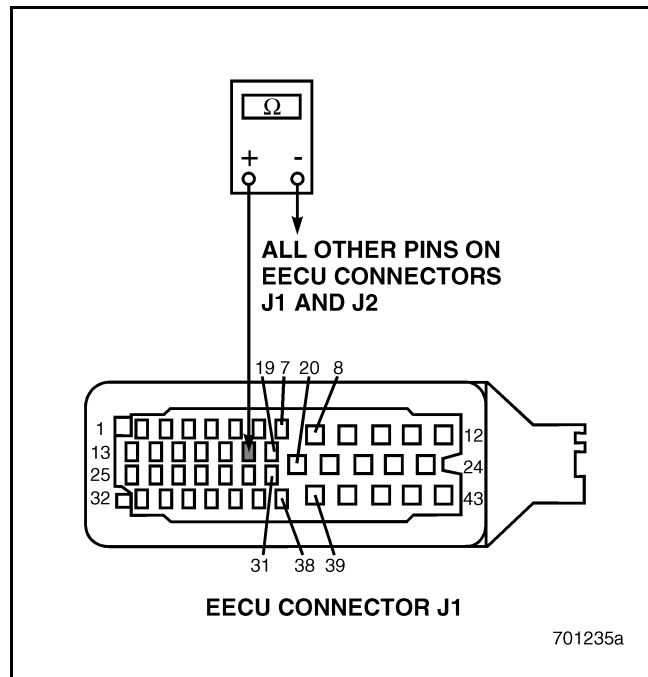

Figure 398
3. Disconnect the Engine Position (EP) Sensor.
4. Check for continuity between EECU connector J1 pin 18 and all other pins on EECU connectors J1 and J2 (see Figure 398).